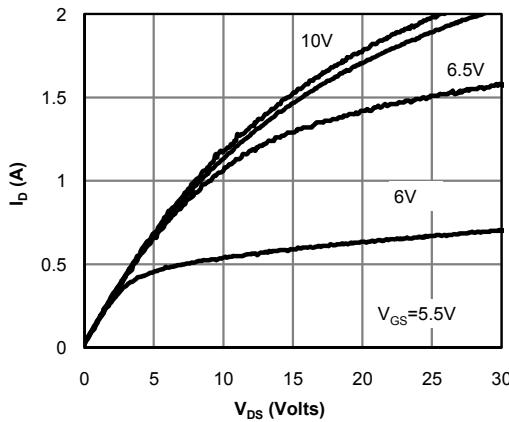

Fig 1: On-Region Characteristics
- E. The static characteristics in Figures 1 to 6 are obtained using $<300\ \mu\text{s}$ pulses, duty cycle 0.5% max.